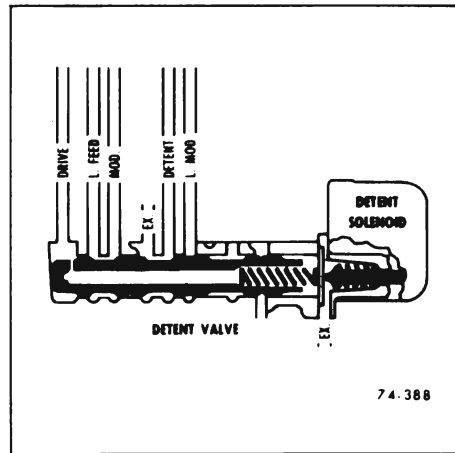

Figure 74-16 - Detent Valve
h. Detent Valve (See Figure 74-16)